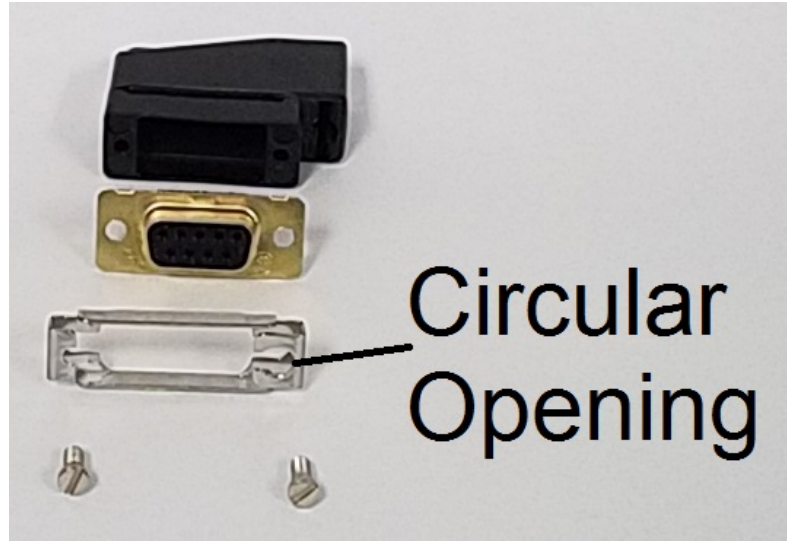

Figure 3-17
22. The pitch servo connector backshell and slidelock should be assembled as shown in Figure 3-17.